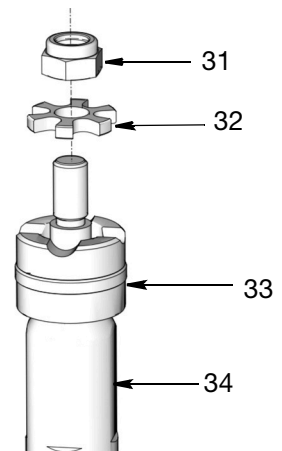

FIG. 37
13. Apply a thin layer of grease to the piston seal (33). Install the piston seal over the piston rod (34).
14. Install the star washer (32) and the lock nut (31) on the piston rod (34), as shown in FIG. 37.